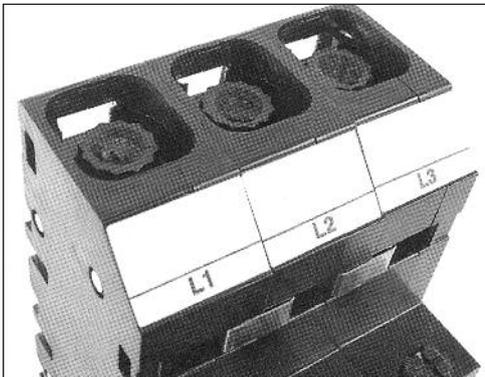

Fig 3
- The top half of the hexagon head will shear off (Fig 3) when the required tightening torque (20Nm for 250A and 28Nm for 400A/630A) is reached.